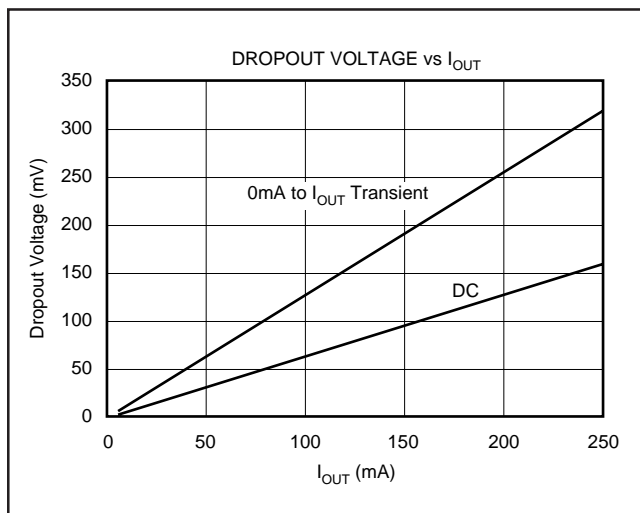

FIGURE 6. Transient and DC Dropout.
The REG102 uses an N-channel DMOS as the pass element. When  $(V_{IN} - V_{OUT})$  is less than the drop-out voltage ( $V_{DROP}$ ), the DMOS pass device behaves like a resistor; therefore, for low values of  $(V_{IN} - V_{OUT})$ , the regulator input-to-output resistance is the  $R_{dsON}$  of the DMOS pass element (typically  $600m\Omega$ ). For static (DC) loads, the REG102 typically maintains regulation down to a  $(V_{IN} - V_{OUT})$  voltage drop of 150mV at full rated output current. In Figure 6, the bottom line (DC dropout) shows the minimum  $V_{IN}$  to  $V_{OUT}$  voltage drop required to prevent dropout under DC load conditions.
For large step changes in load current, the REG102 requires a larger voltage drop across it to avoid degraded transient response. The boundary of this transient drop-out region is shown as the top line in Figure 6 and values of  $V_{IN}$  to  $V_{OUT}$  voltage drop above this line insure normal transient response.